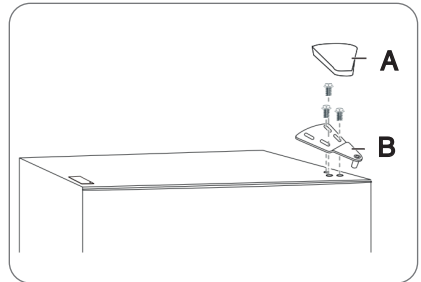

Fig. 5.2
Fix top hinge (B) to the top LH side of the refrigerator with the three previously removed screws (Fig.5.2).